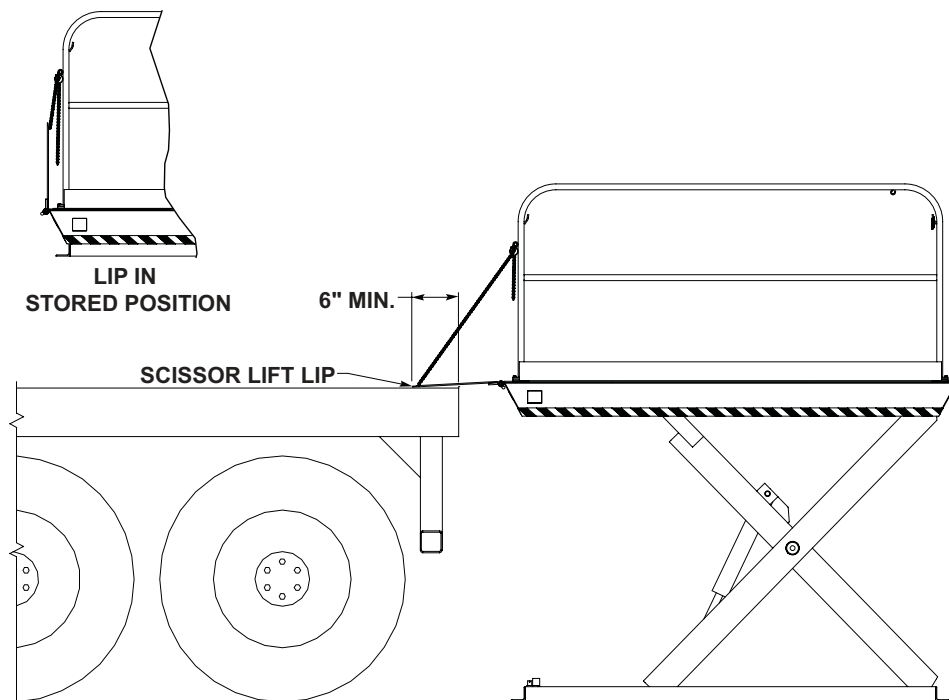

FIGURE 3 - LIP SUPPORT ON TRUCK / TRAILER
2. Lower the lip (bridge plate) onto the vehicle. Ensure the lip is supported by a minimum of 6" on the truck/trailer floor. See figure 3.